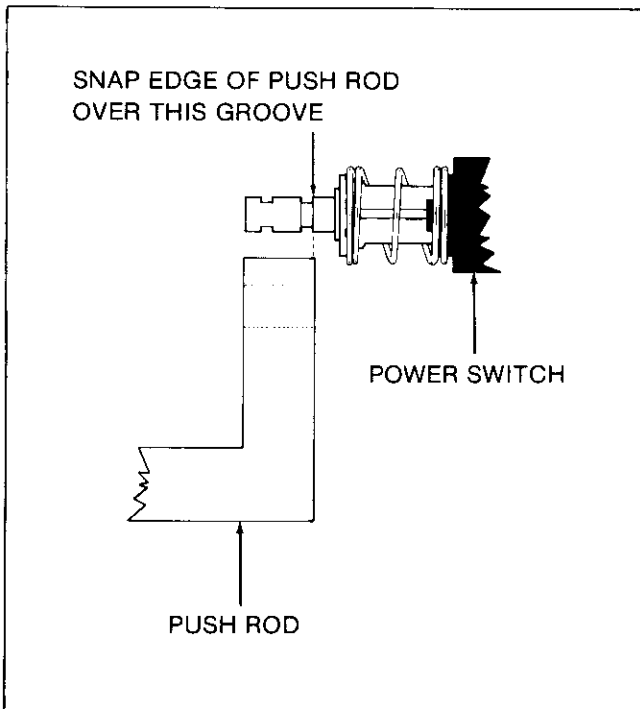

Figure 6-10. Installing The POWER Switch Push Rod
- b. Snap the other end of the push rod onto the POWER switch plunger. The rear of edge of the push rod should fit in the groove nearest the rear panel (Figure 6-10).